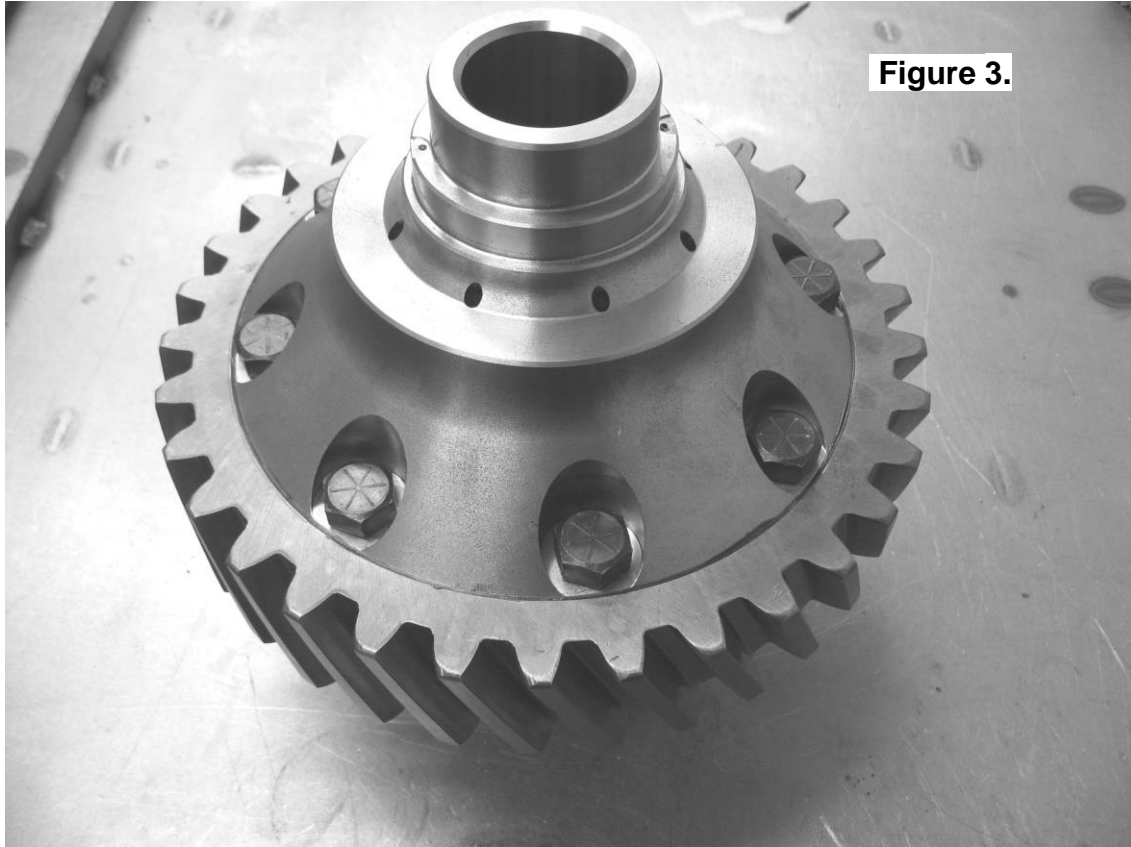
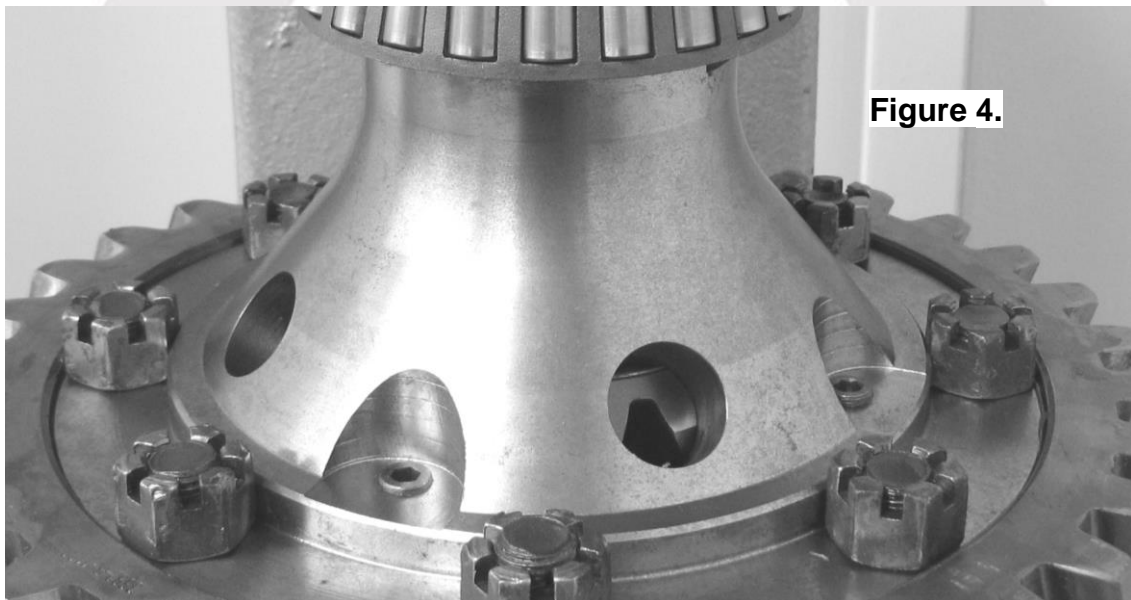

Figure 3.
Figure 4.
- Install the nuts and tighten the ring gear bolts in a star pattern with a torque wrench according to your vehicle manufacturer's specified torque (Figure 3.). The nuts will be held captive by the machined face on the case (Figure 4.).